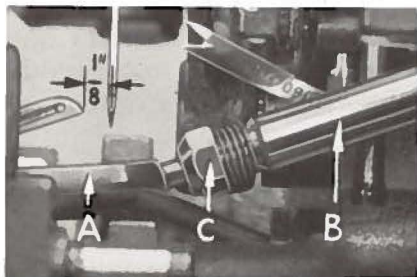

Fig. 4
At this point, insert lower looper (A, Fig. 4) into bar (B). With lower looper at the left end of its stroke, set looper point  $1/8$  inch from center of needle (Fig. 4), using looper gauge No. 21225- $1/8$ . Do not have lower looper deflecting needle. Tighten nut (C).